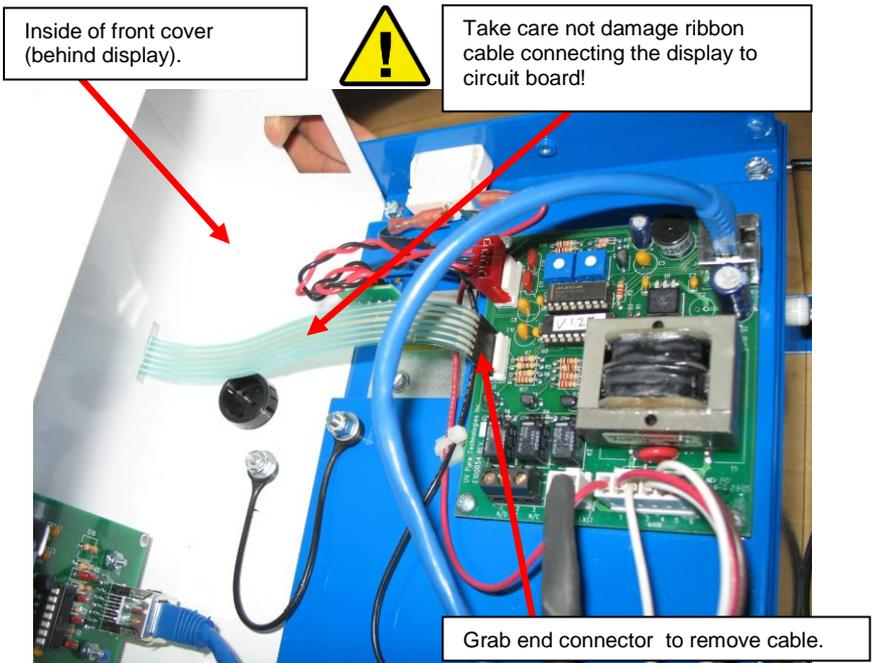

Figure 5
1. Begin by removing the *front cover* (with label & lights). This is accomplished by first removing the 2 screws below holding the front cover. Then remove the screw that secures the top cover. Remove the top cover. Gently remove the *front cover* and hold it a couple of inches off from the body – see Figure 5. **You must disconnect a thin green ribbon cable that powers the display lights – be careful not to damage this.** Reach in and disconnect the ribbon cable from the circuit board by grabbing the end **black** connector (never pull on the green cable itself). The *front cover* can then be moved a few more inches away from the body.